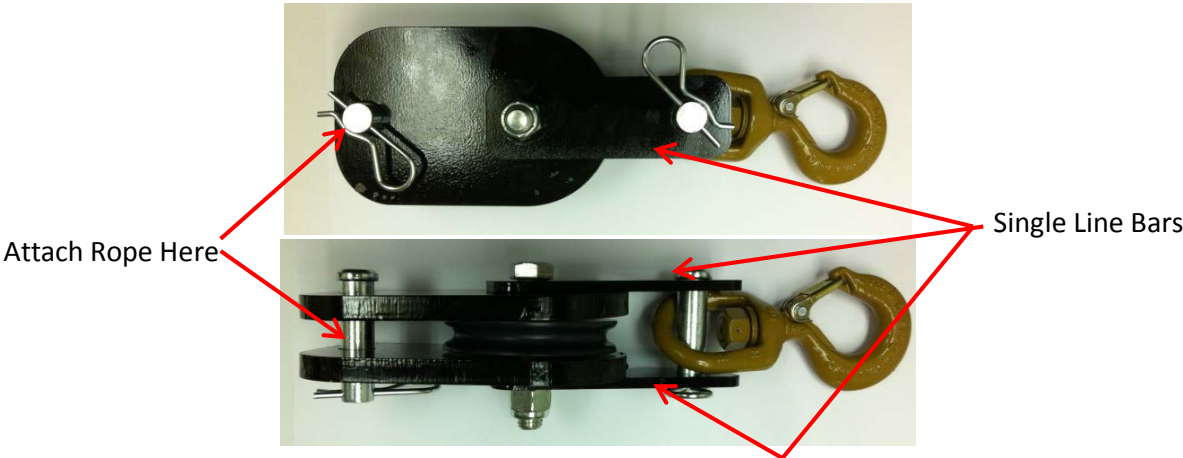

Figure 1
1. Boom up to the max boom angle and measure the clearance between base plate and the rotation bearing with a dial or filler gauge. Reference figure 1 for location.
2. Boom down to the horizontal position and measure the clearance between the base plate and the rotation bearing with a dial indicator or feeler gauge. Reference figure 1 for location.